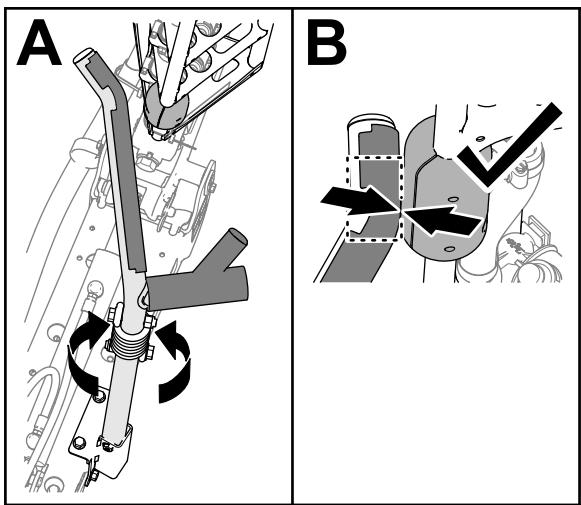

Figure 117
4. Rotate the cradle assemble until the bend in the cradle tube aligns with the slide block on the top tube of the outer boom (Figure 117)
**Note:** The blocks must contact the cradle at the bend in the upper cradle tube (Figure 117).